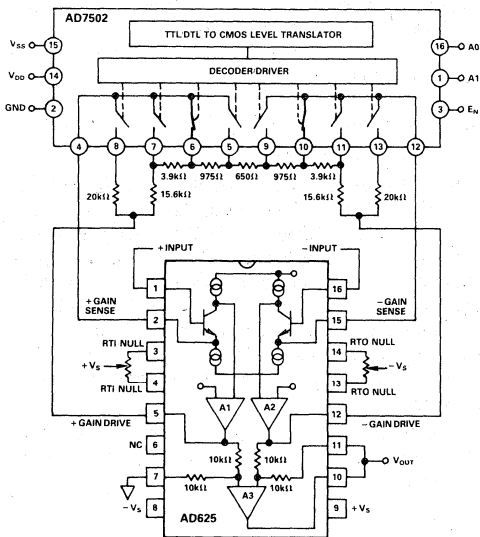
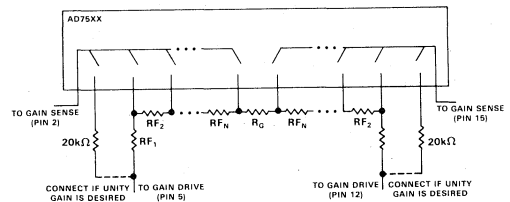

Figure 38. SPGA in a Gain of 16
Figure 41. Resistors for a Gain Setting Network
Figure 38 shows an AD625 based SPGA with possible gains of 1, 4, 16, 64.  $R_G$  equals the resistance between the gain sense lines (pins 2 and 15) of the AD625. In Figure 38,  $R_G$  equals the sum of the two 975Ω resistors and the 650Ω resistor, or 2600Ω.  $R_F$  equals the resistance between the gain sense and the gain drive pins (pins 12 and 15, or pins 2 and 5), that is  $R_F$  equals the 15.6kΩ resistor plus the 3.9kΩ resistor, or 19.5kΩ. The gain, therefore equals:
The individual resistors in the gain network can be calculated sequentially using the formula given below. The equation determines the resistors as labeled in Figure 41. The feedback resistors and the gain setting resistors are interactive, therefore; the formula must be a series where the present term is dependent on the preceding term(s). The formula
running total of the preceding feedback resistors. To illustrate how the formula can be applied, an example similar to the calculation used for the resistor network in Figure 38 is examined below.
1) Unity gain is treated as a separate case. It is implemented with separate 20kΩ feedback resistors as shown in Figure 41. It is then ignored in further calculations.
2) Before making any calculations it is advised to draw a resistor network similar to the network in Figure 41. The network will have  $(2 \times M) + 1$  resistors, where  $M$  = number of gains. For Figure 38  $M = 3$  (4, 16, 64), therefore, the resistor string will have 7 resistors (plus the two 20kΩ "side" resistors for unity gain).
5) If different resistor values are desired, all the resistors in the network can be scaled by some convenient factor. However, raising the impedance will increase the RTO errors, lowering the total network resistance below 20kΩ can result in amplifier instability. More information on this phenomenon is given in the RPGA section of the data sheet. The scale factor will not affect the unity gain feedback resistors. The resistor network in Figure 38 has a scaling factor of  $650/625 = 1.04$ , if this factor is used on  $R_{F_1}$ ,  $R_{F_2}$ ,  $R_{F_3}$ , and  $R_G$ , then the resistor values will match exactly.